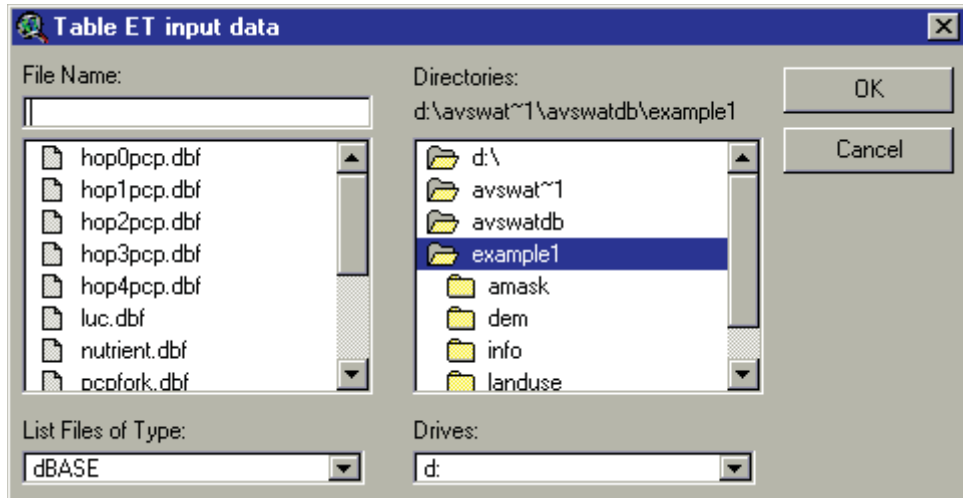

Figure 13.8
- iv. A browser will appear, allowing the user to locate and select the file containing the daily PET values (Figure 13.8)